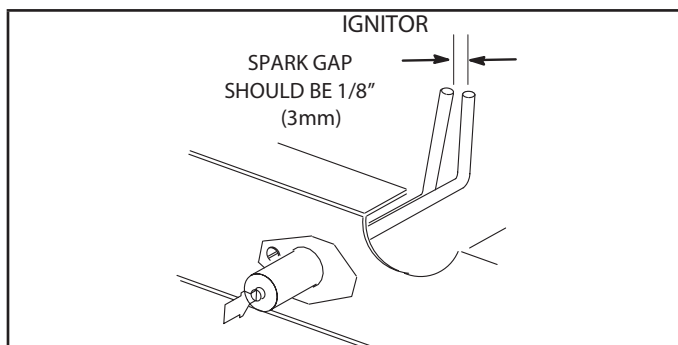

FIGURE 37
- 4 - Locate the ignitor under the left burners. Check ignitor spark gap with appropriately sized twist drills or feeler gauges. See FIGURE 37.
- 5 - Check the alignment of the ignitor and the sensor as shown in FIGURE 37 and TABLE 16.